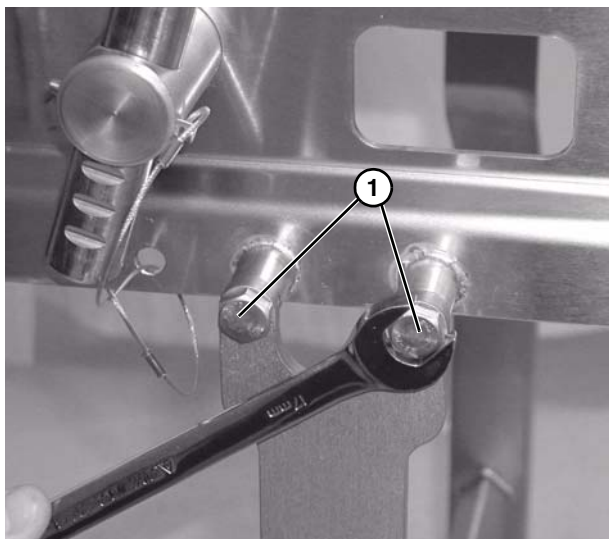

Figure 34
2. Attach the stands to the frame (**Figure 34**).
3. Tighten hex screws (**Figure 34, item 1**).